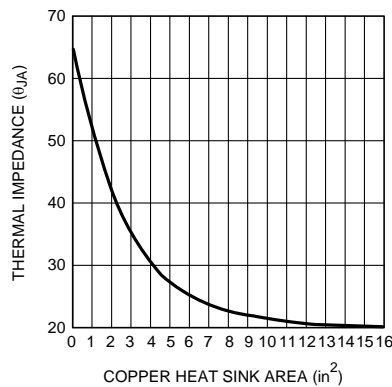

Figure 30. Thermal Resistance for 5-lead TO-263 Package Mounted on 1oz. Copper
The TO-263 package has excellent thermal characteristics. To minimize thermal impedance, its exposed die attach paddle should be soldered to a circuit board copper area for good heat dissipation. Figure 30 shows typical thermal resistance from junction to ambient as a function of the copper area. The TO-263's exposed die attach paddle is electrically connected to the V_{EE} power supply pin.
If a heat conductive copper plane has perfect thermal conduction (heat spreading) through the plane's total area, the temperature rise is inversely proportional to the total exposed area. PCB copper planes are, in that sense, an aid to convection. These planes, however, are not thick enough to ensure perfect heat conduction. Therefore, eventually a point of diminishing returns is reached where increasing copper area offers no additional heat conduction to the surrounding air. This is apparent in Figure 30 as the thermal resistance reaches an asymptote above a copper area of 8in². As can be seen, increasing the copper area produces decreasing improvements in thermal resistance. This occurs, roughly, at 4in² of 1 oz copper board. Some improvement continues until about 16in². Boards using 2 oz copper boards will have decrease thermal resistance providing a better heat sink compared to 1 oz. copper. Beyond 1oz or 2oz copper plane areas, external heat sinks are required. Ultimately, the 1oz copper area attains a nominal value of 20°C/W junction to ambient thermal resistance (θ_{JA}) under zero air flow.
5. θ_{JA} as a function of copper area in square inches is shown in Figure 30. Choose a copper area that will ensure the specified $T_{J(MAX)}$ for the calculated θ_{JA} . The maximum value of junction to ambient thermal resistance, θ_{JA} , is defined as:
4. Finally, choose the minimum value of copper area from Figure 30 based on the value for θ_{JA} .